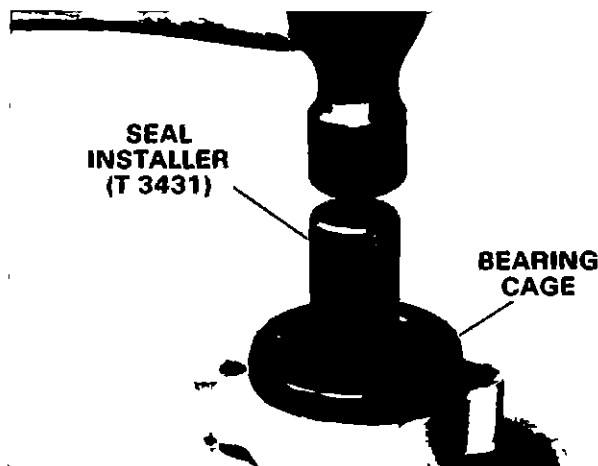

Figure 66 Installing Seal in Bearing Cage.
- A Apply grease (Special Tool No T 2961) between lips of propeller shaft seal Use seal installer (Special Tool No T 3431) to press seal into bearing cage Figure 66 Garter spring should face out toward rear of prop shaft and seal should bottom in bore